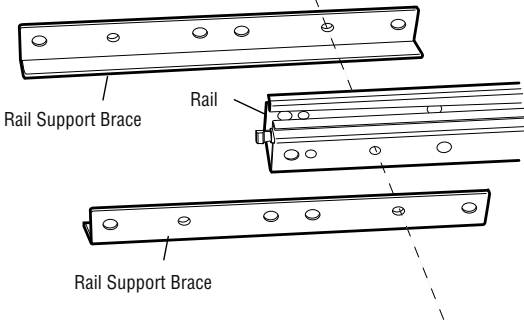

Figure 4
- Place the c-clip onto the long journal shaft (center rail) to ensure that the sleeve does not slide (Figure 4).